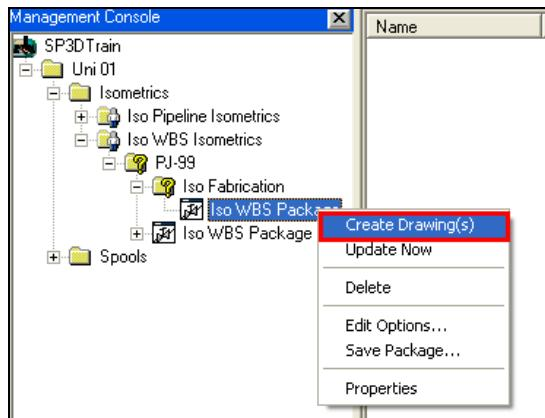

Figure 15: Create Drawing(s) Option
20. Now right-click the **Iso WBS Package** under **Iso WBS Isometrics > PJ-99 > Iso Fabrication** and click the **Create Drawings** option, as shown in Figure 15, to create the isometric drawing documents.